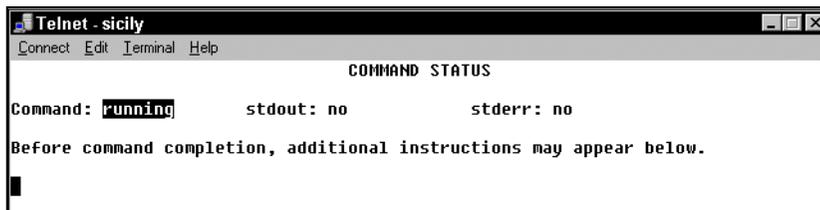

Figure 2-6 Install additional device software — installation in progress
- j. You get the COMMAND STATUS window, as shown in Figure 2-6.